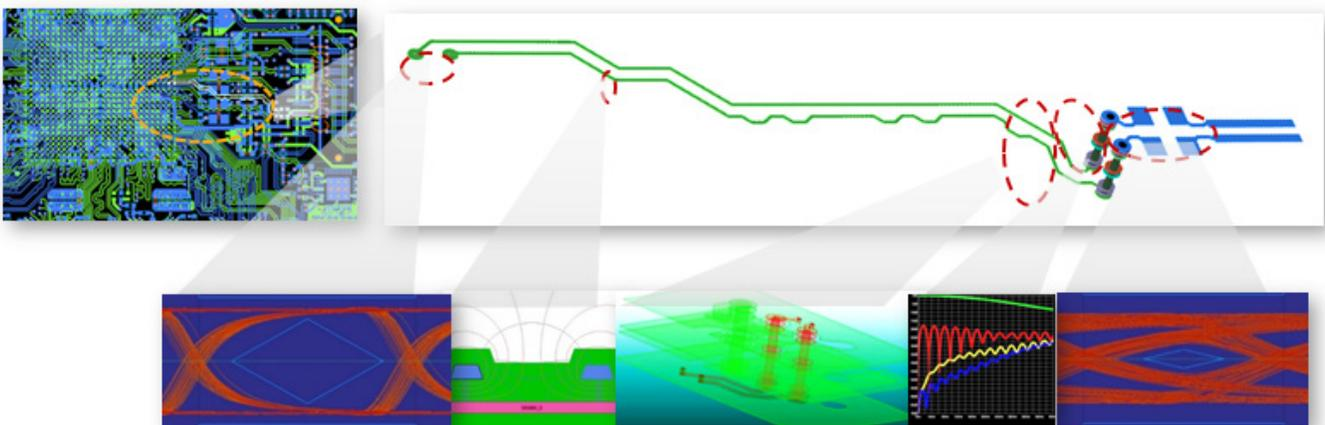

Figure 1: SERDES channel decomposition and modeling
The steps above are performed manually. As such, the process requires high attention to detail making it both time-consuming and error-prone (Figure 1). Further, it requires in-depth electromagnetic (EM) expertise to ensure that the resulting model(s) (from step 2, above) is accurate.